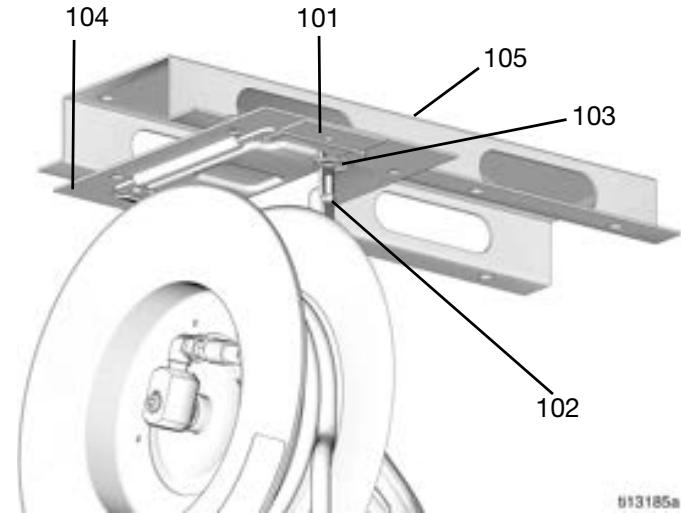

FIG. 11
- Install the mounting channel (105) and base plate (104) (SDX Models), as shown in FIG. 11.
- Slide the hose reel into the base plate (104) and install the hold down plate (101), washer (103), and the cap screw (102). Tighten the screw firmly (Fig. 11).
3. SDX Model Reels only: See FIG. 11, page 15. Slide the hose reel onto the base plate (104) then install the hold down plate (101), washer (103), and cap screw (102). Tighten the screw firmly.